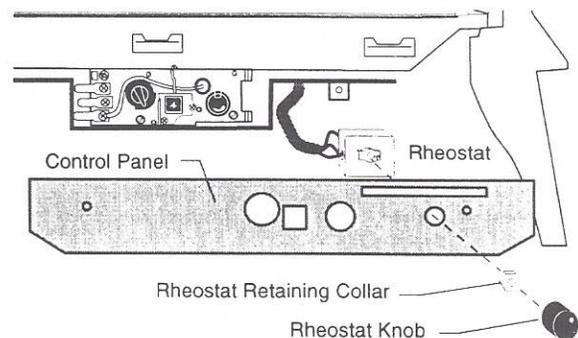

Figure 17. Attach the fan rheostat to the Control Panel.
5. Pass the rheostat cord under the firebox. Set the Control Panel (found in the Parts Bag) in rough position in front of the firebox. See Figure 17. Align the locating pin on the rheostat stem with the smaller hole in the Control Panel. Fasten the rheostat stem to the Control Panel with the retaining collar. Leave the Control Panel off until after you have attached the gas line and connected the switch wires.